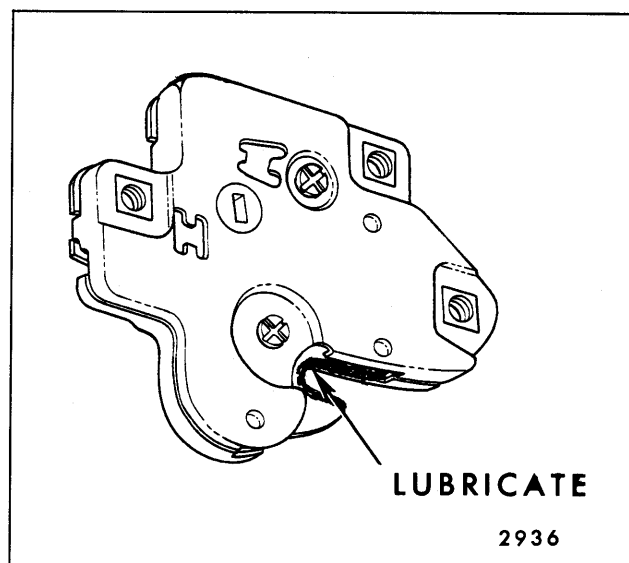

Fig. 2-17—Rear Compartment Lid Lock
2. Apply a thin coat of white lithium soap grease (Lubriplate 630 AAW or equivalent) to the contact surface of the lock bolt (Fig. 2-17)